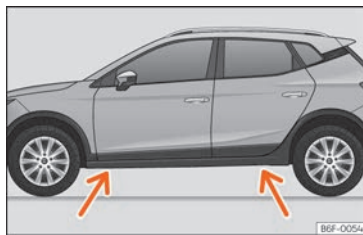

Fig. 198 Jack position points.
- Look on the strut for the mark of the jack support point (sunken area) closest to the wheel to be changed >>> **Fig. 198.**